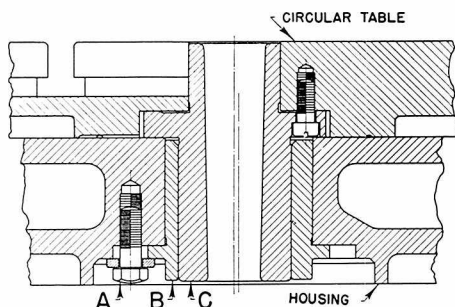

Figure 86A
4. Loosen the two hex head screws "A-A" from the bottom of the housing. (Figure 86A).